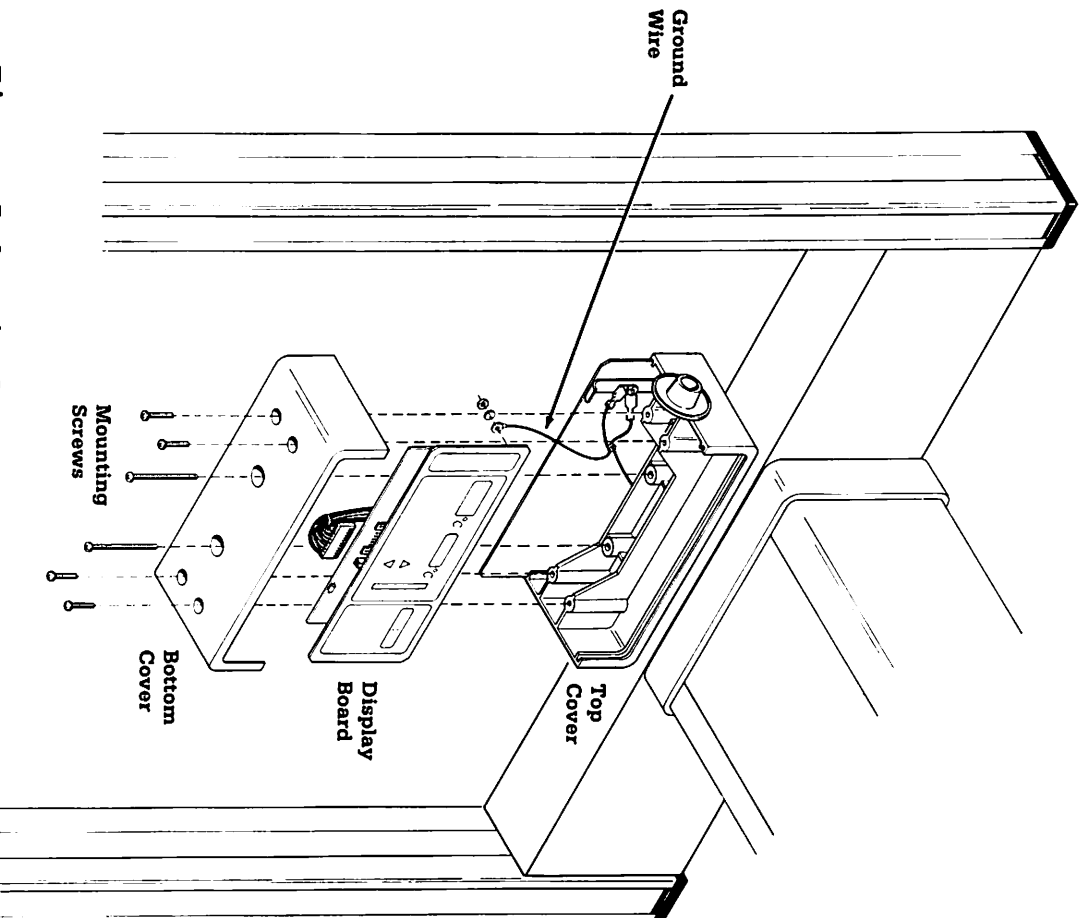

Figure 5-8. Display Module Assembly.
C. Display Module Disassembly (Figures 5-8 and 5-9)
D. Display Module Assembly (Figures 5-8 and 5-9)